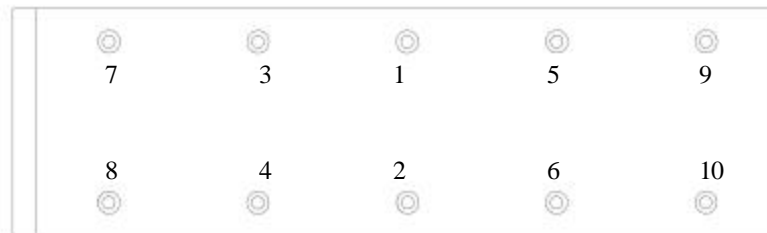

Figure 2. Mounting Screw Torque-Down Sequence
- 4.7 Starting at the center bar of the entire assembled rail and using a torque wrench, tighten screws $\frac{1}{4}$ turn each in the sequence shown in **Figure 2** until all screws on the bar are tightened to the recommended torque value in **Table 2**. Apply mounting screw torque-down sequence according to **Figure 2** for all magnet bars in the series.